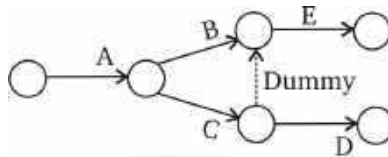

Fig. 9.21
- (iii) Activity C precedes activity D. The activity E can be completed only after the completion of activities B and C. It may easily be seen that dependence of activity E (favourable cost) of the activity C (economy of tooling) is from a technical point of view and does not consume any resource. Hence, the dummy activity is shown by a dotted line in fig. 9.21.